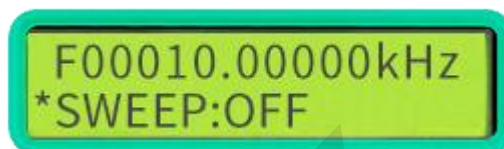

Figure 2-11-5
- After confirming the sweep mode, press the key **【AMPL/PgDn】** to enter the sweep control interface as shown in Figure 2-11-5, and then press the key **【OUT/OK】** to turn on (ON) or turn off (OFF) the sweep function.